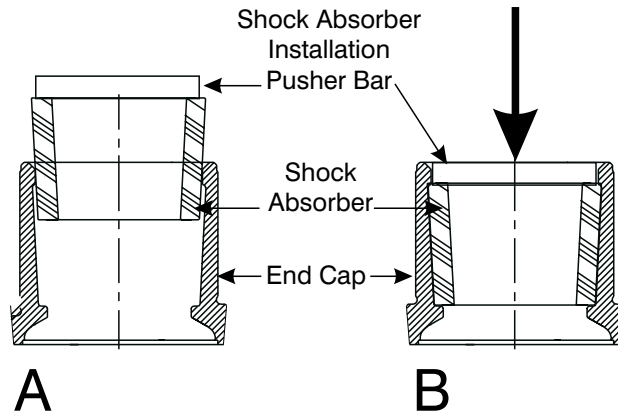

Figure 9-2. Press the Shock Absorber into the End Cap
5. Center the Shock Absorber (11) over the threaded end of the End Cap (10). Fit the the Shock Absorber into the End Cap only as far as it will slide freely. Refer to Figure 9-2-A.
6. Center the press plunger or push bar over the Shock Absorber as shown in Figure 9-2-A.
7. Press the Shock Absorber (11) into the End Cap (10) until it seats between the shoulders at opposite ends of the end of the cap as shown in Figure 9-2-B.
9. Inspect the seating of the Shock Absorber at both ends of the End Cap. The Shock absorber should fit just under the shoulder with no space between the shoulder and the corner of the Shock Absorber. Refer to Figure 9-2-B.